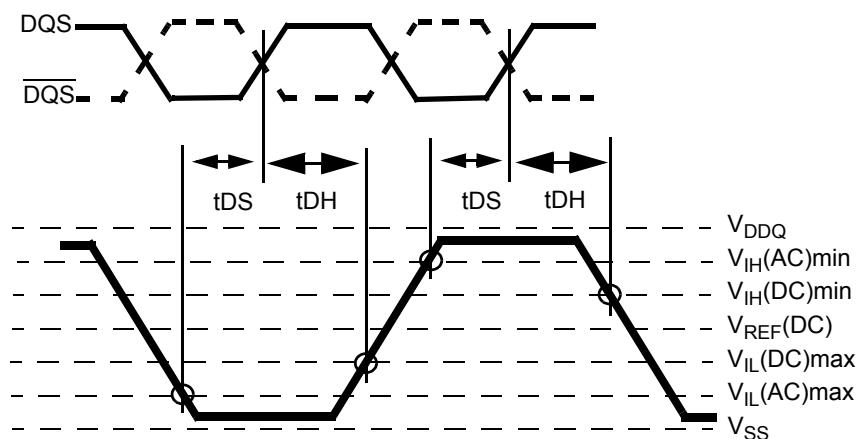

Figure 18 - Differential input waveform timing -  $t_{DS}$  and  $t_{DH}$
20. Input waveform timing  $t_{DS}$  with differential data strobe enabled  $MR[bit10]=0$ , is referenced from the input signal crossing at the  $V_{IH}(AC)$  level to the differential data strobe crosspoint for a rising signal, and from the input signal crossing at the  $V_{IL}(AC)$  level to the differential data strobe crosspoint for a falling signal applied to the device under test.  $DQS$ ,  $\overline{DQS}$  signals must be monotonic between  $V_{IL}(DC)_{max}$  and  $V_{IH}(DC)_{min}$ . See Figure 18.
21. Input waveform timing  $t_{DH}$  with differential data strobe enabled  $MR[bit10]=0$ , is referenced from the differential data strobe crosspoint to the input signal crossing at the  $V_{IH}(DC)$  level for a falling signal and from the differential data strobe crosspoint to the input signal crossing at the  $V_{IL}(DC)$  level for a rising signal applied to the device under test.  $DQS$ ,  $\overline{DQS}$  signals must be monotonic between  $V_{IL}(DC)_{max}$  and  $V_{IH}(DC)_{min}$ . See Figure 18.